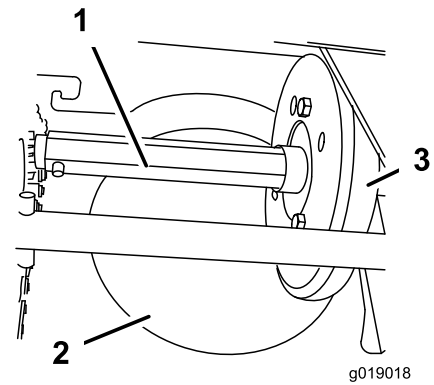

Figure 33
**Important:** Do not get oil on the rubber wheel or the steel friction pulley because the traction drive will slip (Figure 33).
Lightly lubricate the hex shaft yearly with automotive engine oil (Figure 33).